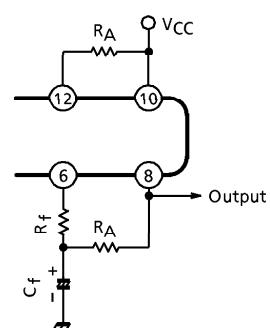

Fig.3
1) In case of the battery use ($V_{CC} \leq 6V$), this IC is happen to oscillate (blocking oscillation) when the impedance of power supply is high. In this case, it is recommended to insert the resistance R_A of $500\Omega \sim 1k\Omega$ between ⑩pin and ⑫pin (V_{CC} – Filter II). By this method, this IC becomes very stable. But the output DC voltage is not center by the influence of R_A . Then the output wave shape is not symmetrical clipping wave and the maximum output voltage is reduced. So we recommend to insert the other resistance R_B between ⑥pin and ⑧pin for compensating the output DC voltage.
2) When you use this IC at the supply voltage of more than 6V, it is better to insert the resistance R_B for compensating output DC voltage. (Fig.3)